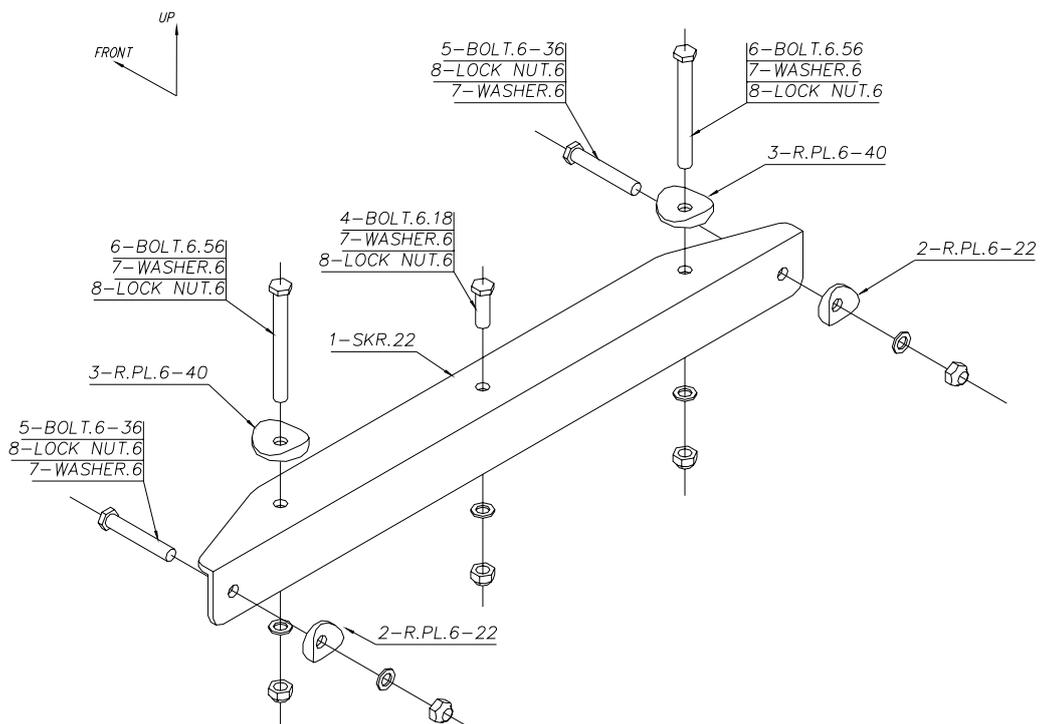

Figure 65; vertical and horizontal stabiliser front mounting.
- a) Attach the aluminium corner section **22**, Figure 65, to the upper rear fuselage tubes **tu2**.
- c) If the fit is too tight, shown by distortion of the metal T-shaped plate which forms the rear mounts, slot the uppermost mounting holes in the aluminium corner section **22**, Figure 65, towards the rear to allow the corner section to move forwards slightly.